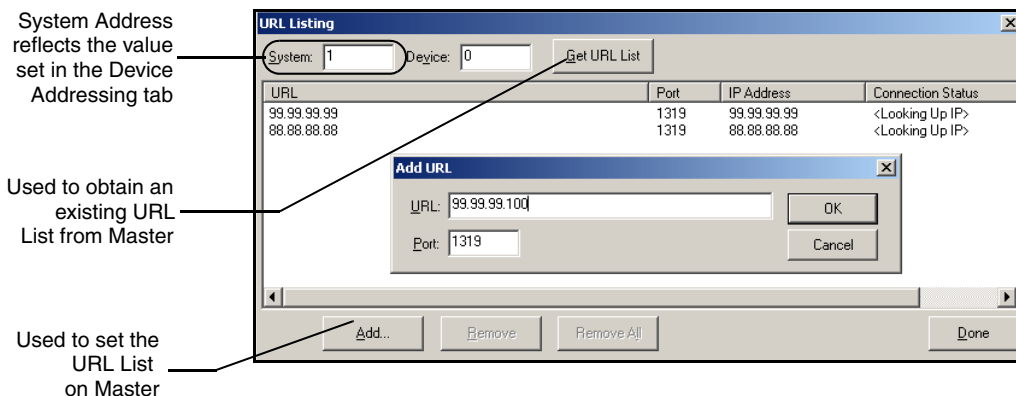

FIG. 64 URL List dialog
- Select **Diagnostics > URL Listing** from the Main menu (FIG. 64).